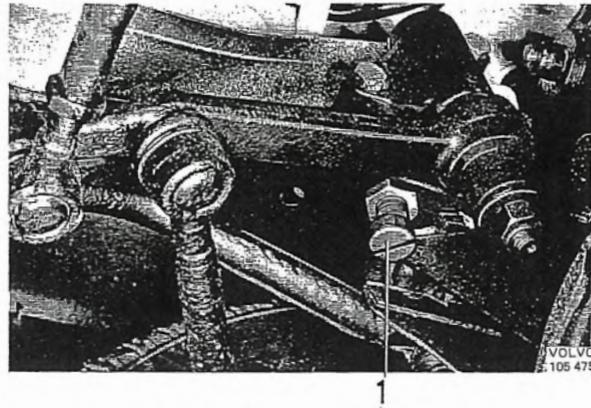

Fig. 6-11. Adjusting screw, max. wheel lock
Turning of the wheels is limited by stop screws at the pitman arm for left-hand driving and at the relay arm for right-hand driving, see Fig. 6-11.
1. Turn the left wheel for a left-hand turn as far as it goes. Check that the lock angle of the wheels is $38-40^\circ$. If it is not, then adjust to this value with the stop screw (Fig. 6-11) at the pitman arm.